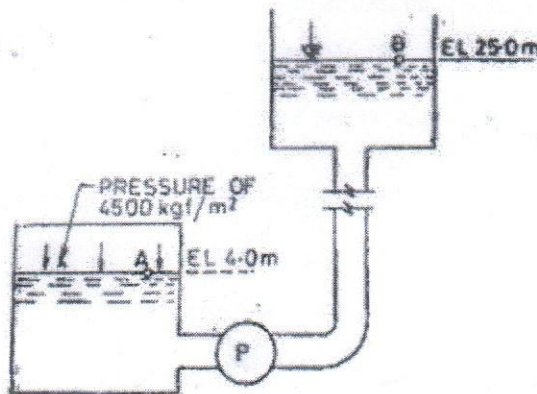

Figure 5
- (c) A 20 HP pump working with 75% efficiency is discharging crude oil (sp. gr. = 0.9) to the overhead tank shown in Figure 5. If losses in the whole system is 1.5 m of flowing fluid, find the discharge. (7)